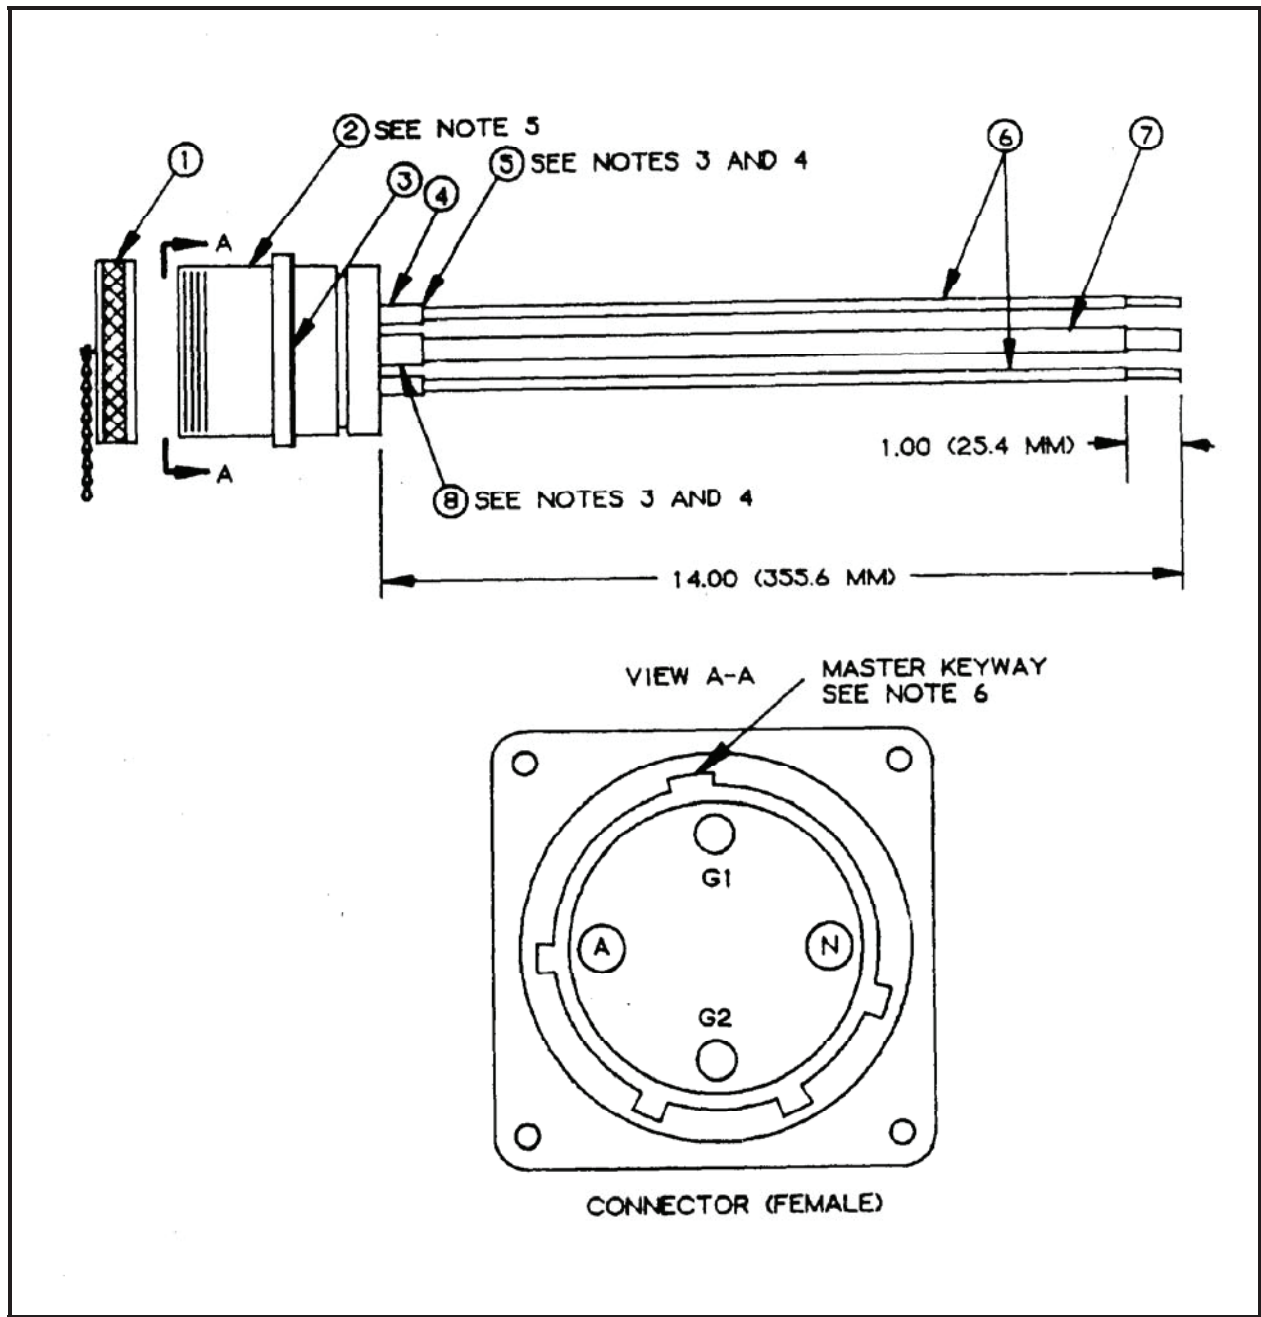

Figure F-11. Output Connector Assembly, M60, 60-Amp.
Component Legend for Figure F-11
c. Electrical connector (Figure F-11, Item 2) is furnished with the following: